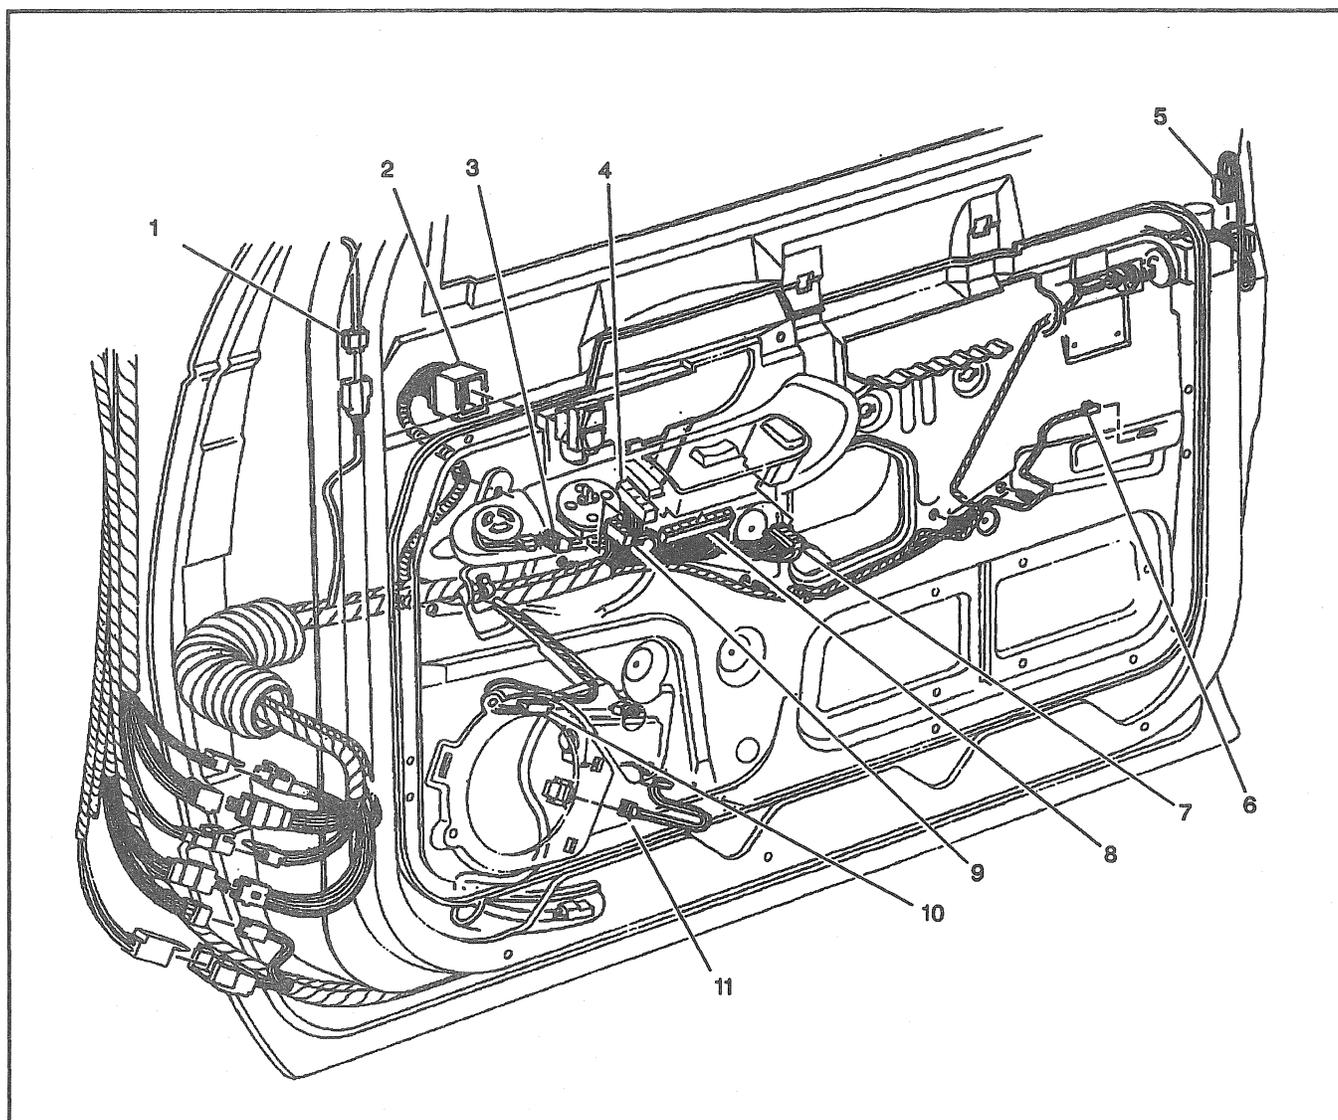

Figure 11—Front Door Wiring Harness Connectors
- 4. Door hinge spring using J 36604 (Figures 11 and 12).
- 7. Door hinge spring using J 36604 (Figures 11 and 12).